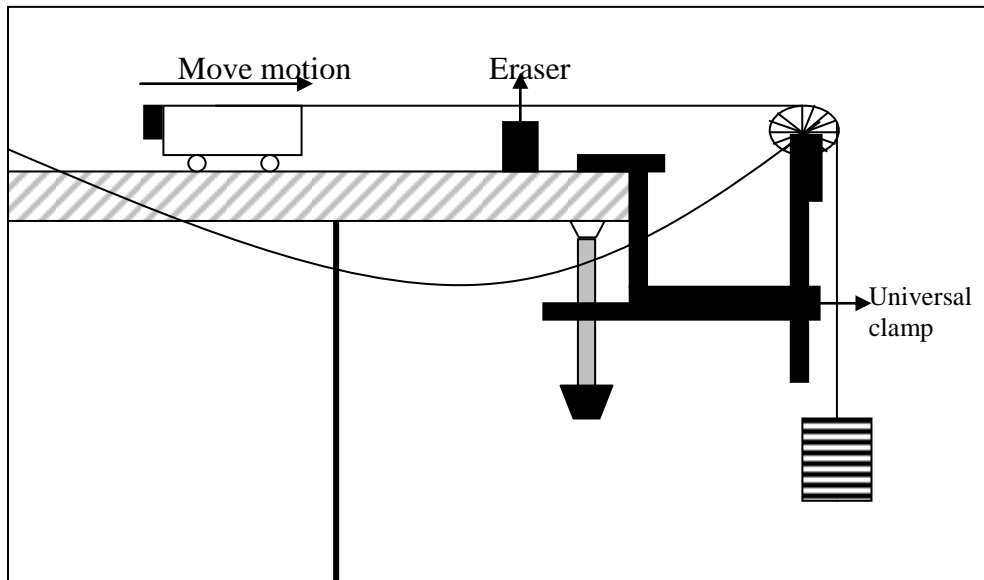

Figure 4.2: Equipment Setup
- 1- Set up the apparatus as shown in Fig. 4.2, in an area where the cart move 1-2 meters in a straight line. Connect the Smart Pulley to your Apple II.